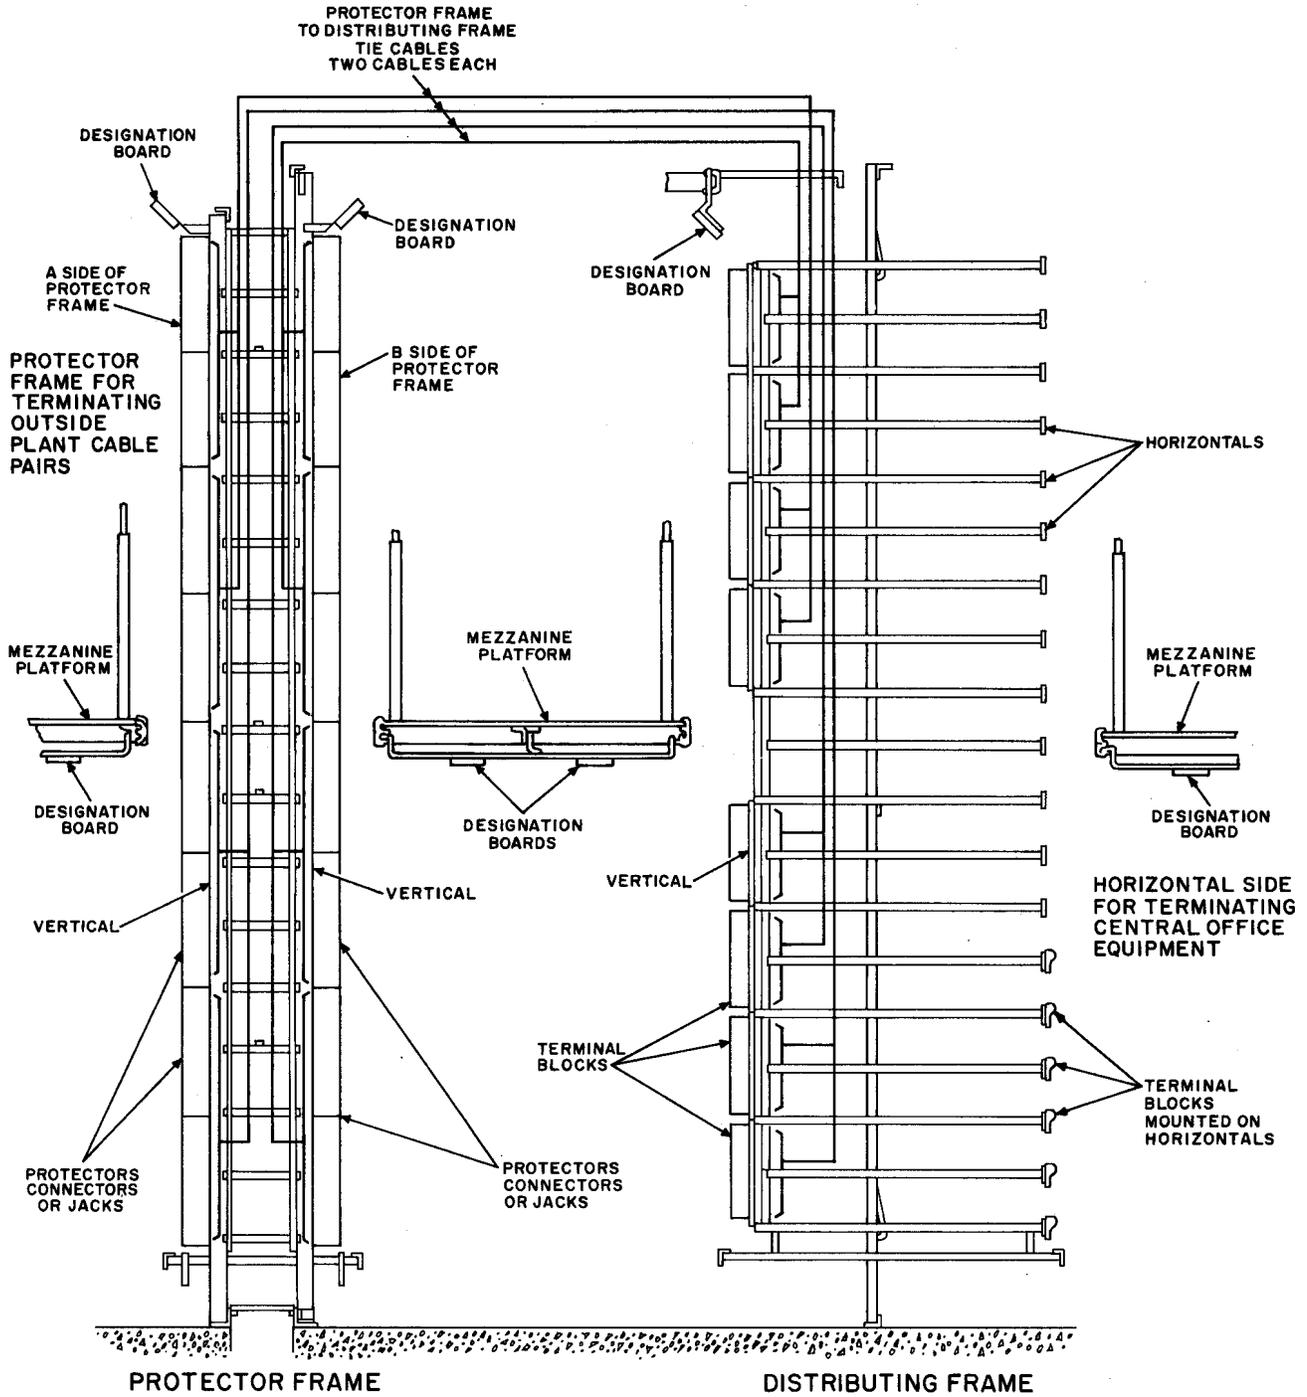

Fig. 1—Conventional Double-Sided Protector Frame with Distributing Frame
2.02 The conventional double-sided protector frame is used in conjunction with a distributing frame as shown in Fig. 1. The frames are usually set up parallel and make up a distributing frame arrangement providing protection and cross-connect capabilities. The protector frame will mount protectors, connectors, or jacks on both sides of the verticals of the frame.
2.04 The conventional double-sided protector frame can vary in height and termination capacity. Most of the 14-foot 6-inch frames were originally designed with a mezzanine platform shown in Fig. 1. In some installations, rolling ladders are installed instead of mezzanine platforms to provide access to the upper levels of the frame.
4.01 Designation boards are furnished for both sides of the protector frame. The designation boards are mounted at the top of the frame; when a mezzanine platform is provided, similar designation boards are located under the mezzanine platform (Fig. 1). The number of the vertical and the numbers of the cables appearing in that vertical are stamped on the designation cards. A letter A or B is also added to the vertical numbers for